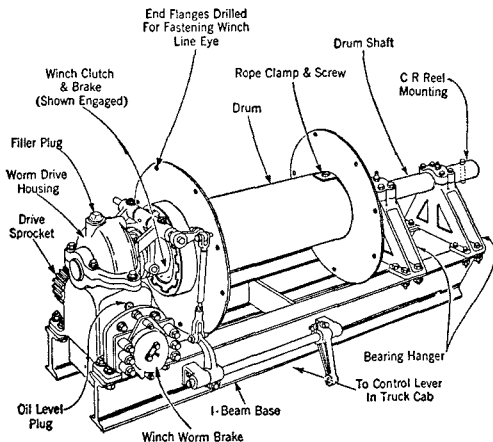

Fig. 4—AT7897 Winch
2.12 The AT7897 (UG) winch (Fig. 4) rated at 10,000 pounds capacity is a worm drive winch. It has a tendency to overheat on long pulls and is not recommended for sustained loading. It can be driven mechanically through a power takeoff or hydraulically with a power take-off driven pump supplying hydraulic fluid to a hydraulic motor and the AT8111 winch hydraulic drive or similar transmission.